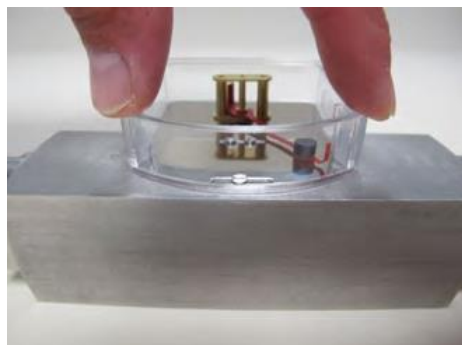

Fig. 67
- 16.** ► Place the plastic housing on the display base plate and press down until it snaps into place. (Fig. 67)